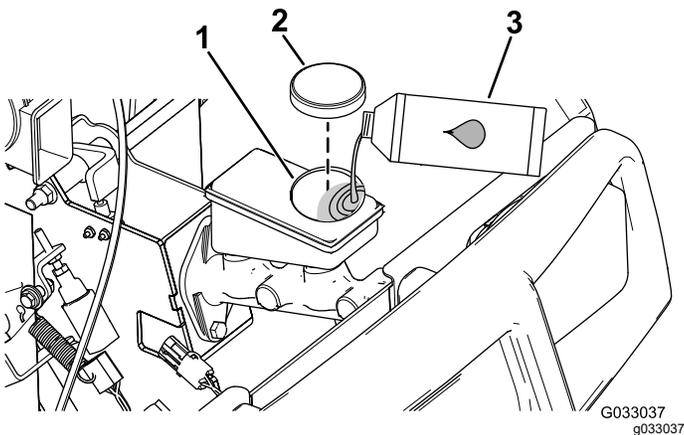

Figure 68
4. Raise the hood to access to the master brake cylinder and reservoir (Figure 68).
- A. Clean the area around the reservoir cap and remove the cap (Figure 68).
- C. Install the reservoir cap (Figure 68).